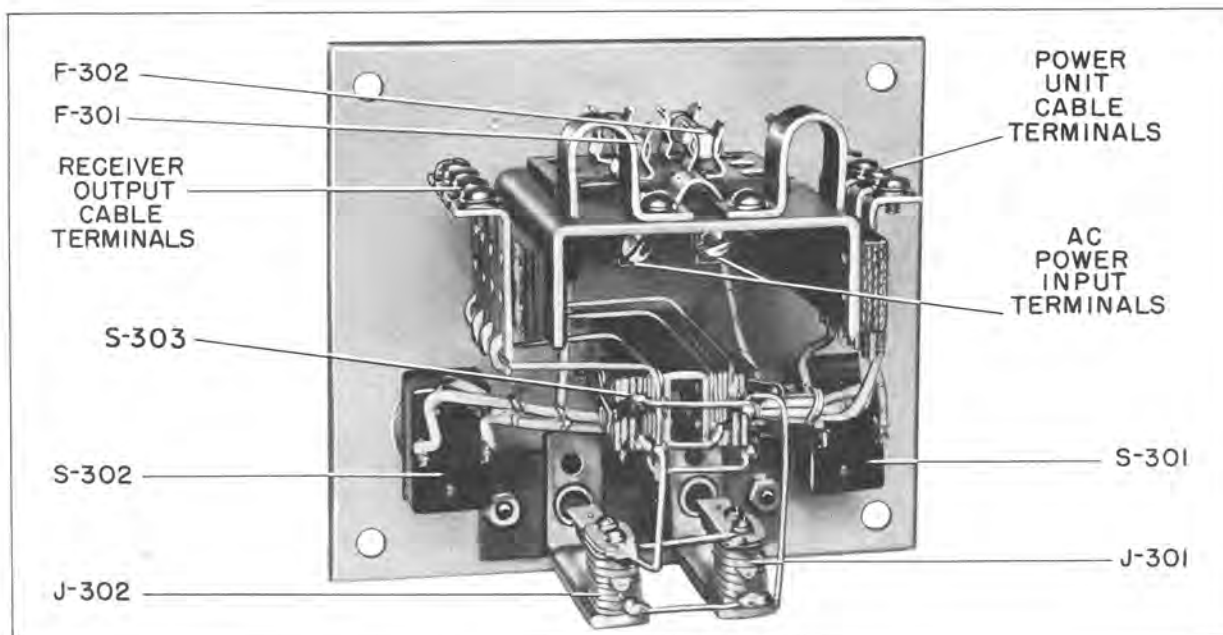

Figure 5—Control Unit CMX-23073-A (Rear View of Panel)
8.4-1 The control unit contains output jacks, mixer switch and power switches mounted on the panel. (See Figure 5.) Fuses and terminal boards are mounted on a bracket secured to the panel. The case may be permanently mounted to any flat surface (see Figure 15).
- 9.6 Control Unit CMX-23073-A (see Figure 5) is shown schematically in Figure 19. The use of this control unit makes possible the guarding of two channels simultaneously. The output of each receiver feeds into the control unit where a 3-position switch is provided which makes available, in the two headphone jacks, signals from either or both of the receivers. Two power switches also are provided on the control unit panel for controlling the power to each receiver independently. The a-c power supply feeds into the control unit and each side of the line is fused. The two supply cables connect to suitable terminals on the power units, which terminals are arranged to omit from the circuit the switch and the fuses in the power unit.